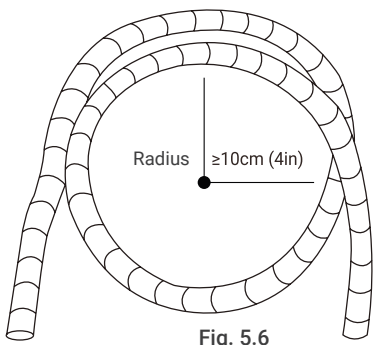

Fig. 5.6
**Minimum bend radius:** When bending connective refrigerant piping, the minimum bending radius is 10cm. See Fig. 5.6.